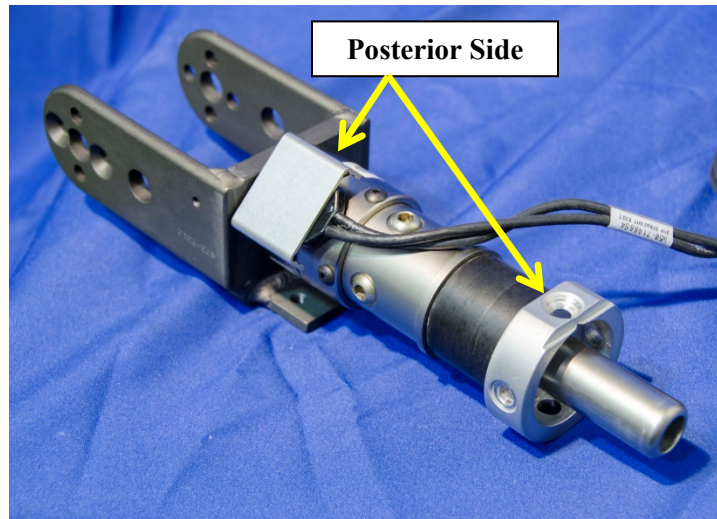
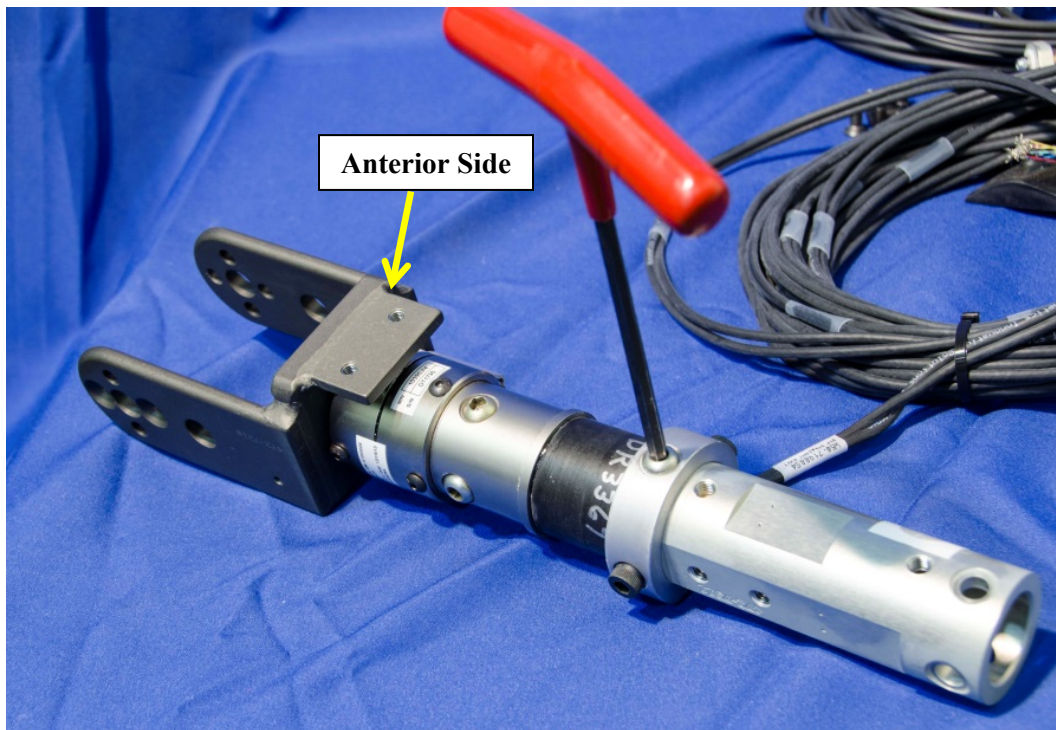

Figure 12-11. Connect lower tibia tube assembly to lower flange of tibia compliant bushing (posterior view)
Figure 12-12. Connect lower tibia tube assembly to lower flange of tibia compliant bushing (anterior view)
12.2.2.3 The Lower Tibia Tube Assembly (472-7310) connects to the Lower Flange (472-7317) of the Tibia Compliant Bushing Assembly (472-7315) using a Modified BHSS M6 Thread on the anterior (front) side (Figure 12-11 and Figure 12-12).